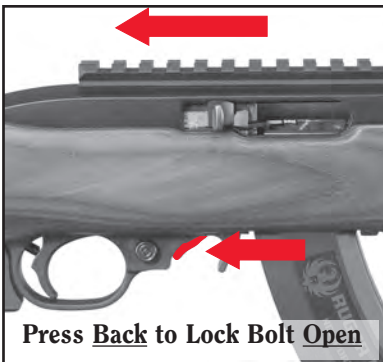

Figure 5a
**To lock the bolt open:** Retract the bolt handle to its extreme rearward position and, while holding it there, press in on the lower section of the bolt lock (see Figure 5a). Release pressure on the bolt handle and it will move forward a fraction of an inch, and then be locked in its open position.